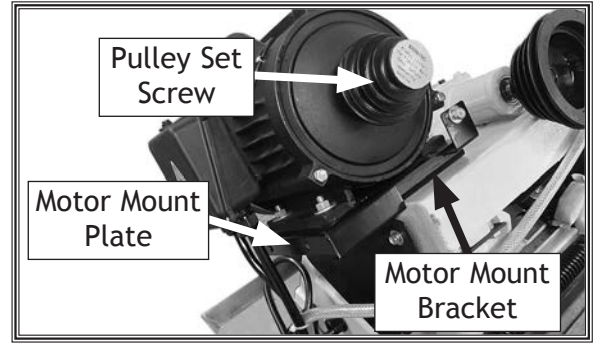

Figure 13. Motor installed on motor mount bracket.
2. Slide motor mount plate into motor mount bracket (see **Figure 13**).
4. Install V-belt onto pulleys, then use a straightedge to check pulley alignment. If pulleys are not aligned, loosen motor pulley set screw (see **Figure 13**), adjust pulley, then re-tighten set screw.